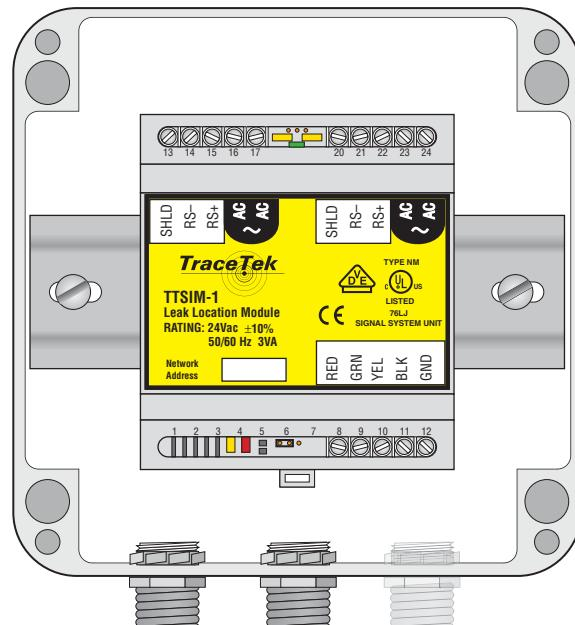

Figure 2. NEMA 4x Enclosure
Mounting the TTSIM-1 module in the optional NEMA-4X Enclosure--Figure 2
- A typical outdoor or harsh environment installation will require up to three holes in the TTSIM-ENC: one for inbound power and telemetry, one for outbound power and telemetry and one for the sensor cable leader. See Figure 2.